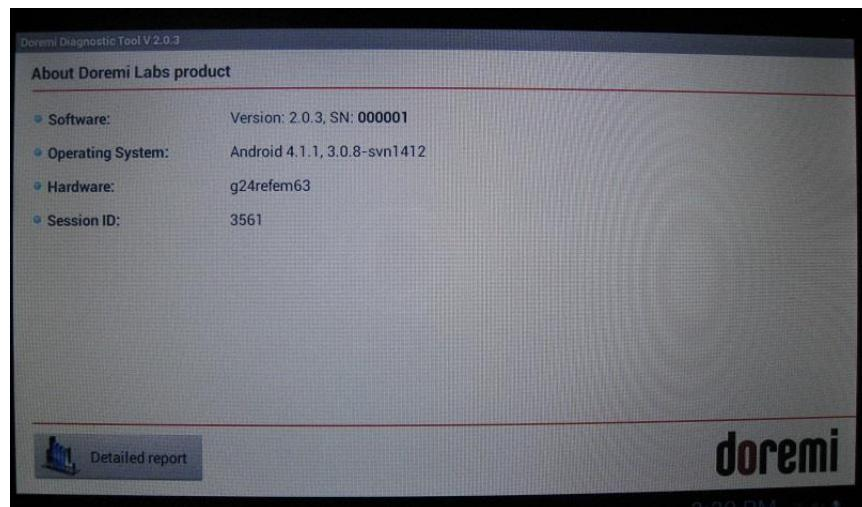

Figure 77: Diagnostic Tool
- To confirm that the software has been updated, go to Diagnostic Tools and check that the software version is 1.1.8 or higher (Figure 77).